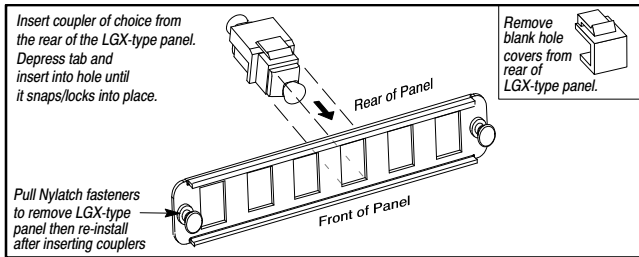

Figure 8. Installing Keystone-type Couplers into LGX Panel
Provided with the VE-2848C-K6 panel is a detachable LGX-type panel which contains 6 Keystone-type coupler positions (see Figure 8) equipped with blank hole covers. Order and install couplers per the specific application, company practice, or service desired. Follow the steps below to install the couplers in the panel.
1. Insert the preferred type of Keystone-type coupler into the first empty Keystone position in the panel (from the rear, see Figure 8). Remove any cover from the coupler.